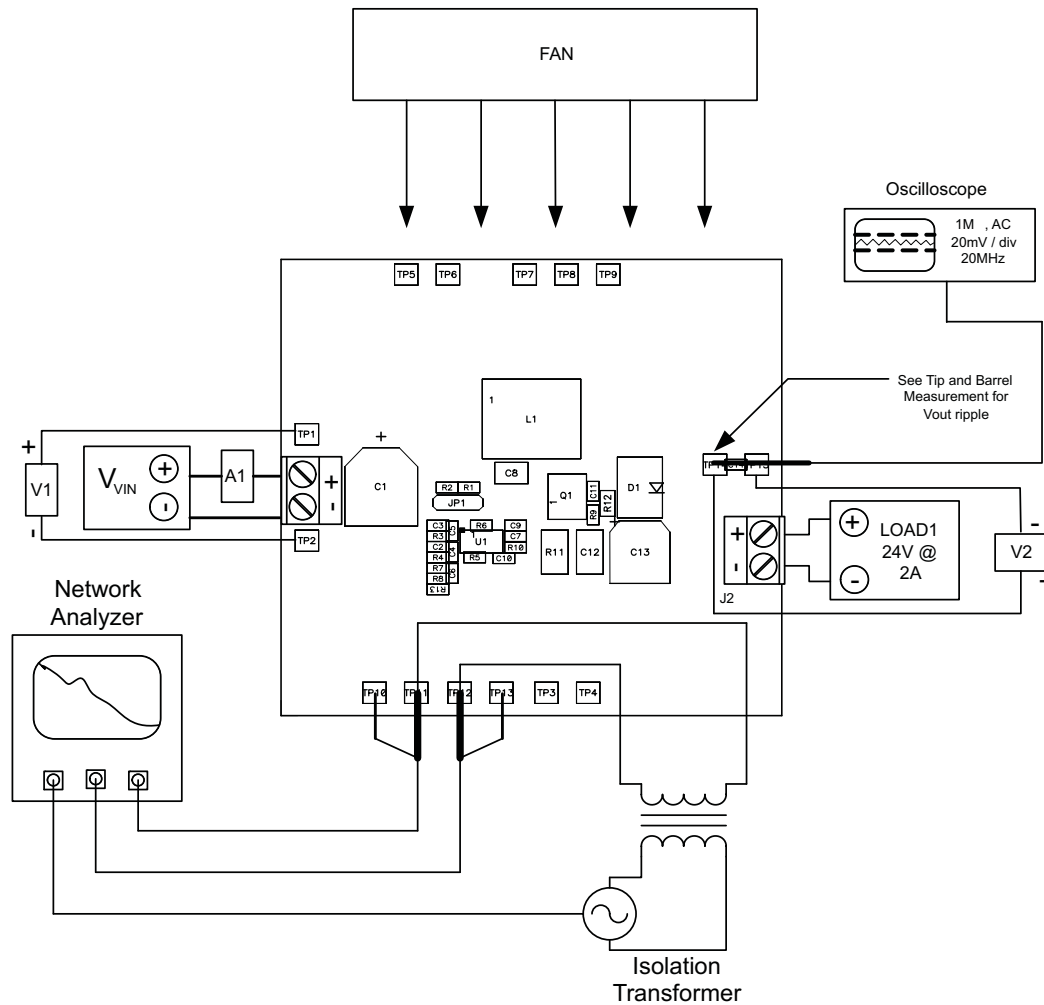

Figure 4. Control Loop Measurement Setup
1. Connect 1-kHz to 1-MHz isolation transformer to TP11 and TP12 as show in Figure 4.
2. Connect input signal amplitude measurement probe (Channel A) to TP11 as shown in Figure 4.
3. Connect output signal amplitude measurement probe (Channel B) to TP13 as shown in Figure 4.
4. Connect ground lead of Channel A and Channel B to TP10 & TP13 as shown in Figure 4.